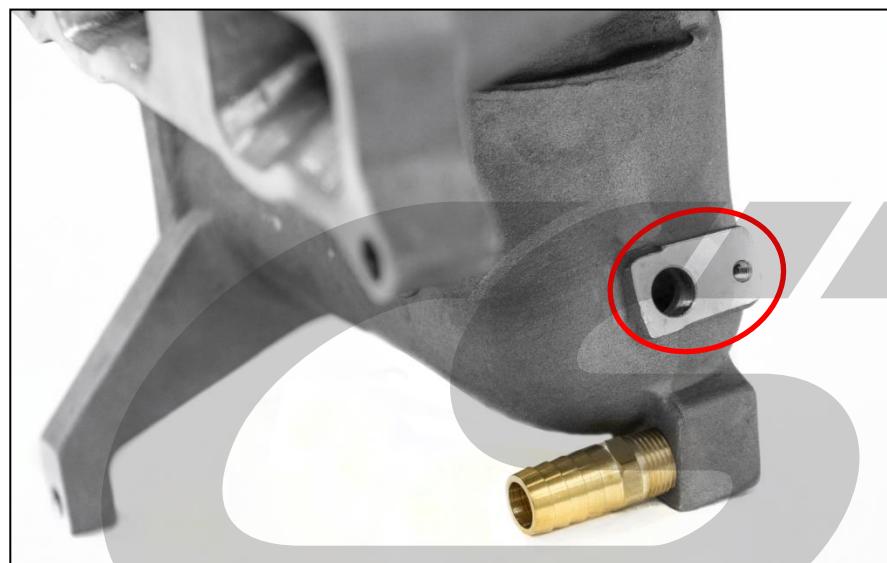

Figure 7c
- c) Install MAP sensor at location marked with red circle in Figure 7c.